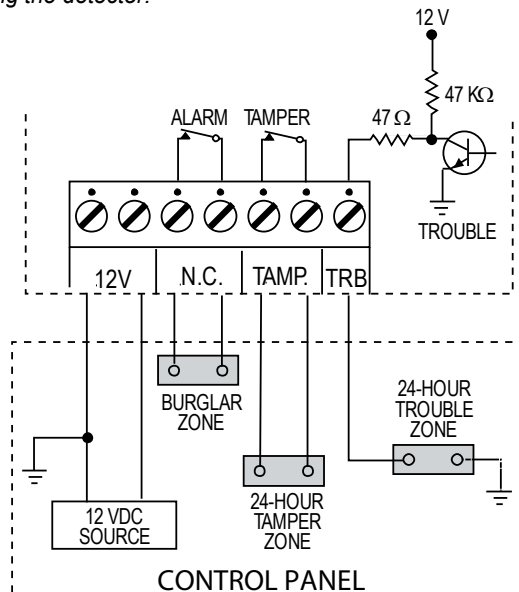

Figure 4. Terminal Block Wiring
**Trouble Output:** Open-collector, 100 mA max. serial resistor 47 Ω, pull-up resistor 47 KΩ (see Fig. 4)
Connect wires to the terminal block in the following order (Fig. 4):
**Connect to:** 24-hour trouble zone, parallel to an E.O.L. resistor (see Figure 4).